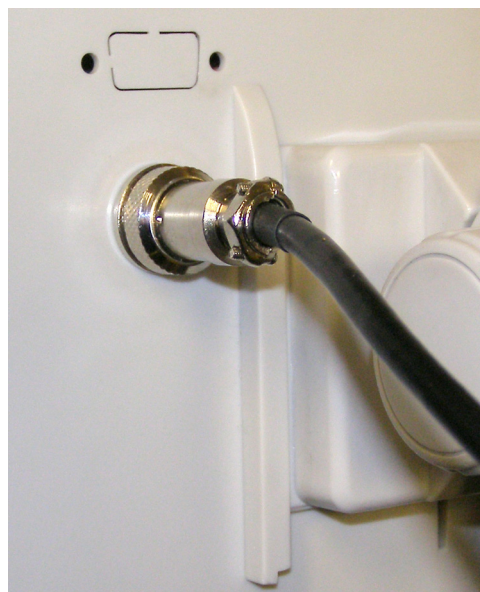

Figure 2.5 Signal cable plugged into back of the indicator
5. The cable from the base to the indicator is run through the column and out through the plastic bracket at the top when you unpack the scale. Make sure the connector is free of obstructions, i.e. packing foam, and plug the cable into the connector, as shown in Figure 2.5. Tighten the threaded collar.